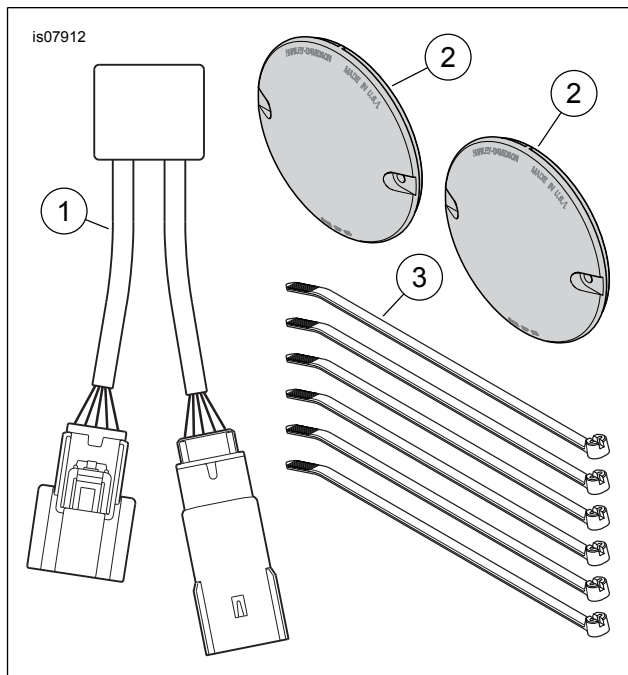

Figure 2. Service Parts, Auxiliary Brake/ Run/ Turn Signal Conversion Kit
See Figure 2 and Table 1.
2. See Figure 2. Get the turn signal module (1) from the kit. Mate the module connectors to the connectors from Step 1. Snap into place.
3. Use cable straps (3) from the kit to secure the module, connector and wiring in the area underneath the seat.
5. See Figure 2. Get one of the red turn signal lenses (2) from the kit. Install the red lens into the rear turn signal housing. Fasten with the original screws. Tighten securely. Repeat for the other lens.